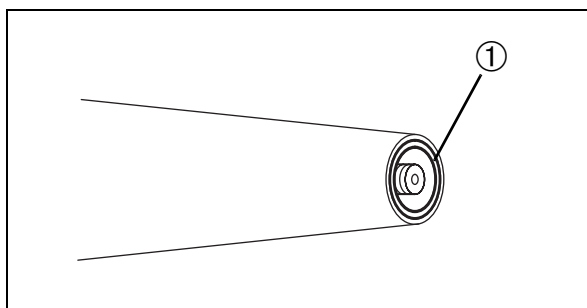

Fig. 65
Blow particles of dirt, etc. away with air in order to avoid scratching the light guide surfaces ① (Fig. 65).
Clean the light guide surfaces ① (Fig. 65) with ethanol prior to sterilization. The entire removable handpiece, excluding the working tip, can be sterilized in the autoclave at 135°C and 2.1 bar (minimum dwell time: 3 minutes).